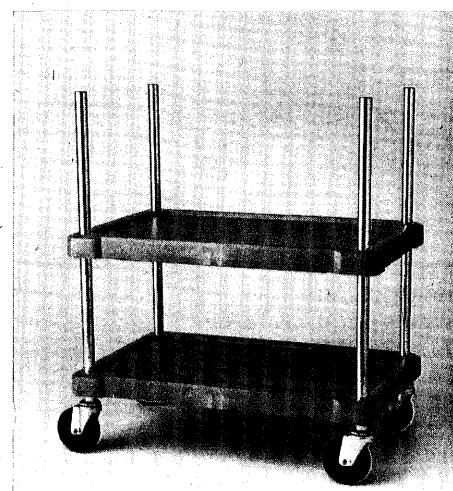

Fig. 9
11. Take a flat shelf and seat on sleeves as per step #6 (Fig. 9).